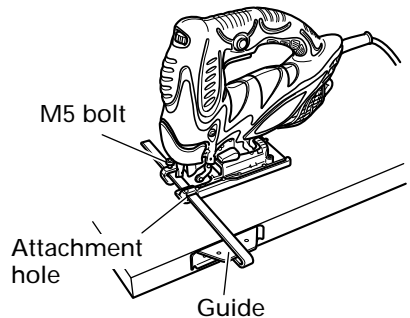

Fig. 12
- (3) Attach the guide by passing it through the attachment hole on the base and tighten the M5 bolt. (Fig. 12)
- (4) Set the orbital position to "0".